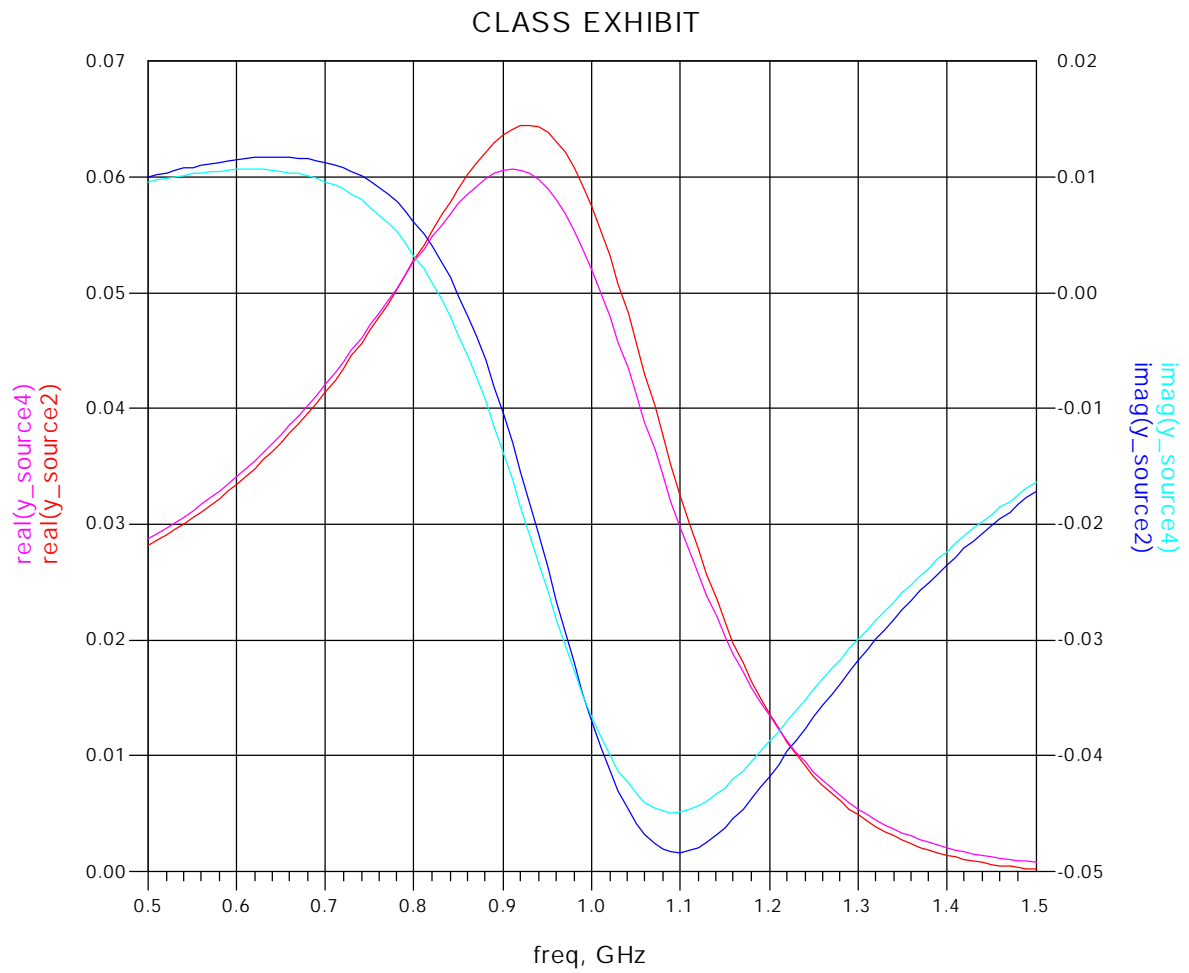
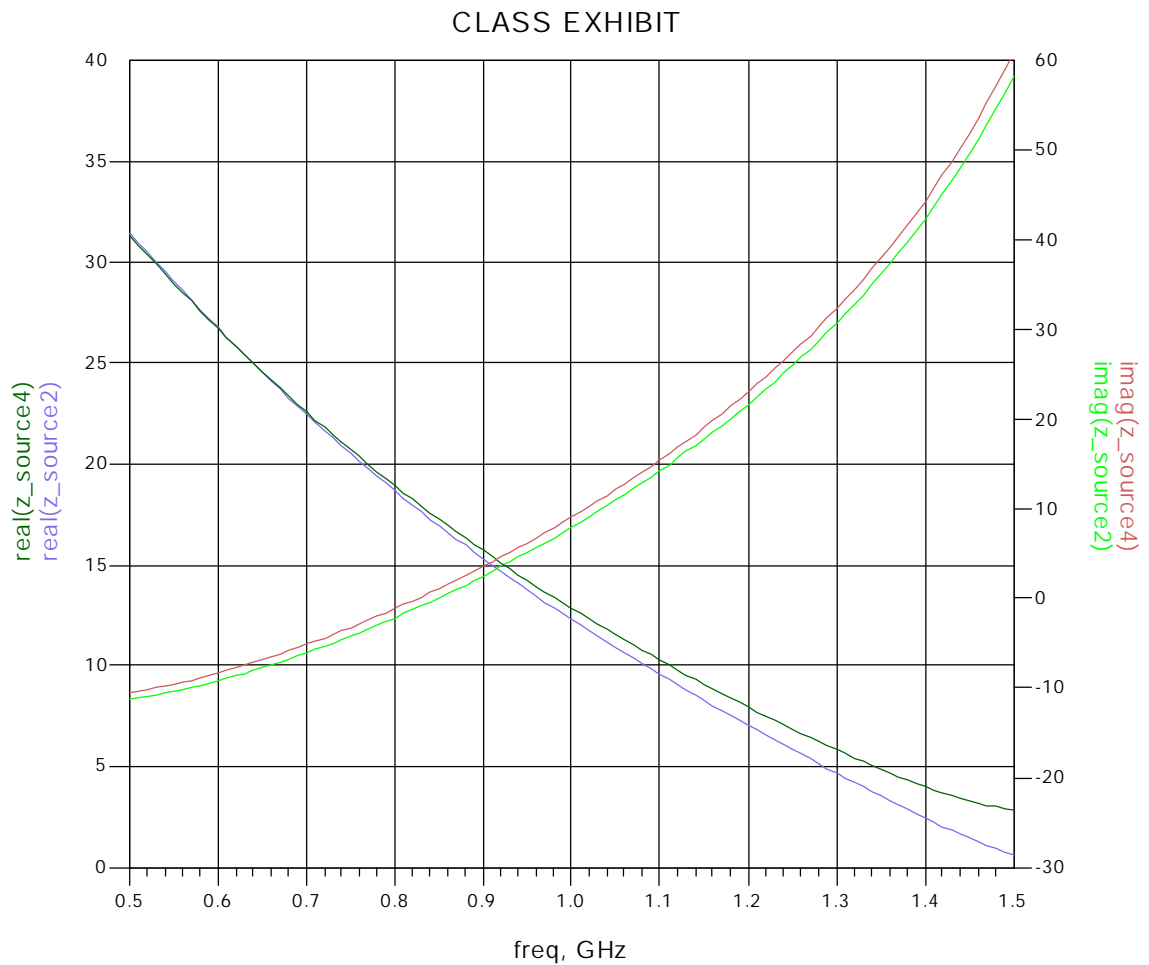

Figure 6. Frequency Response For  $Y_s$ .
Figure 7. Frequency Response For  $Z_s$ .
4. Simulate the source admittance ( $Y_S$ ) and source impedance ( $Z_S$ ) to obtain the results shown in Figure 6 and Figure 7.